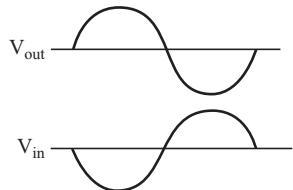

FIGURE 9.2
- 2** When you connect the output of an amplifier to its input, you get feedback. If the feedback is “out of phase” with the input, as shown in Figure 9.2, then the feedback is *negative*.